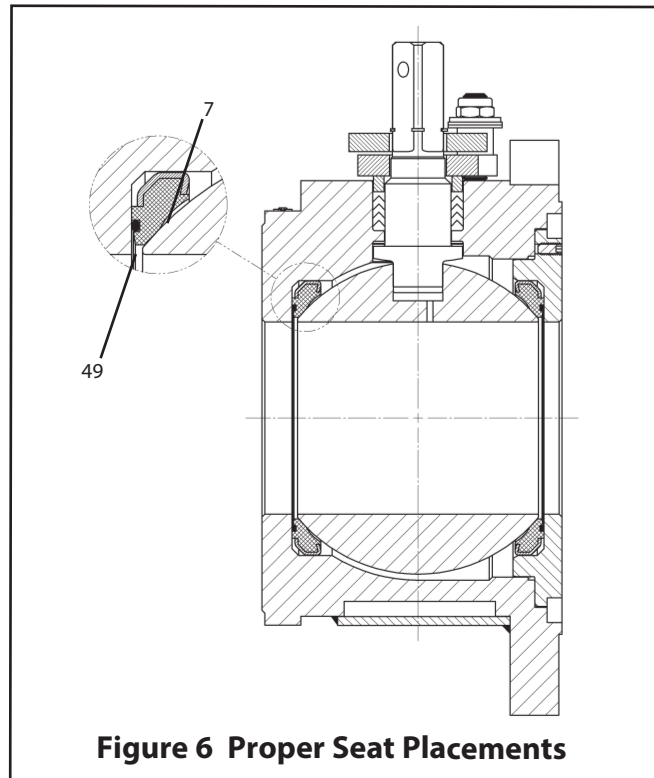

Figure 6 Proper Seat Placements
1. Place O-ring (49) in the groove on the back of the seat (7). A small amount of lubricant, compatible with the commodity in the tank car, applied to the O-ring will help hold the O-ring in the groove during assembly.
3. Slide the first seat (7) with O-ring (49) into the body (1) below the stem opening and tilt it into place so that the proper face will come in contact with the ball (3), (see **Figure 6**).